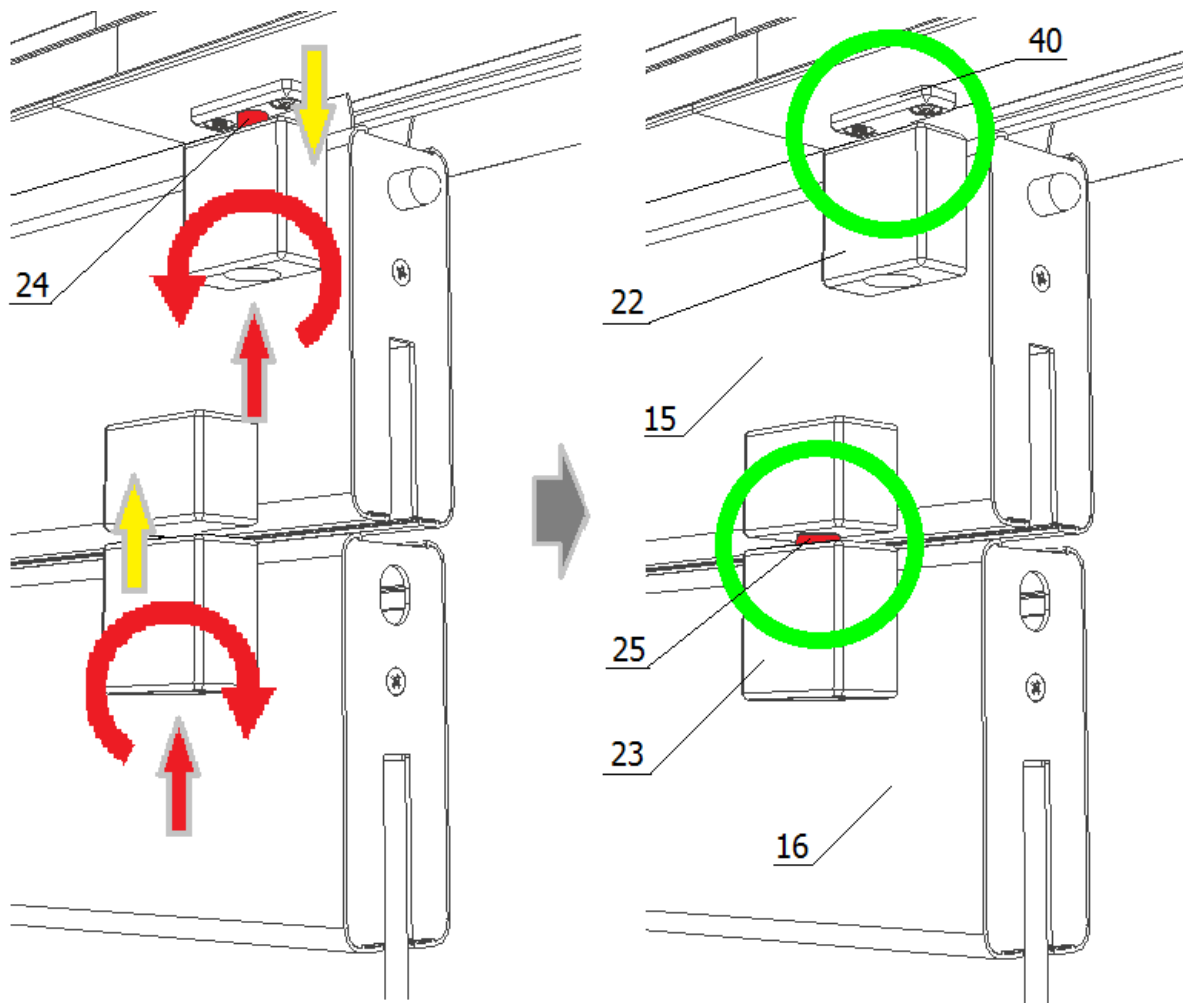

Fig.14 Unlocking the door panel from the track and clipping together both its profiles (red arrow: inserting the key; round arrow: key rotation direction)
1. Both upper profiles of the door panel are blocked (15 and 16) by entering the key according to the red arrows (Fig. 14) into the lock hole (23) so that the door panel does not open. The pin (25) that clips the profiles will come out.
2. Unlock the upper profile of the door panel (15) from the track where the panel positioning plate (40) is located by inserting the key according to the red arrows (Fig. 14) into the lock hole (22) so that the door panel can travel in the track. The locking pin (24) is retracted.
FIRST, both profiles should be locked (15 and 16 in Fig.14) the door panel prevents the door from accidental opening during movement